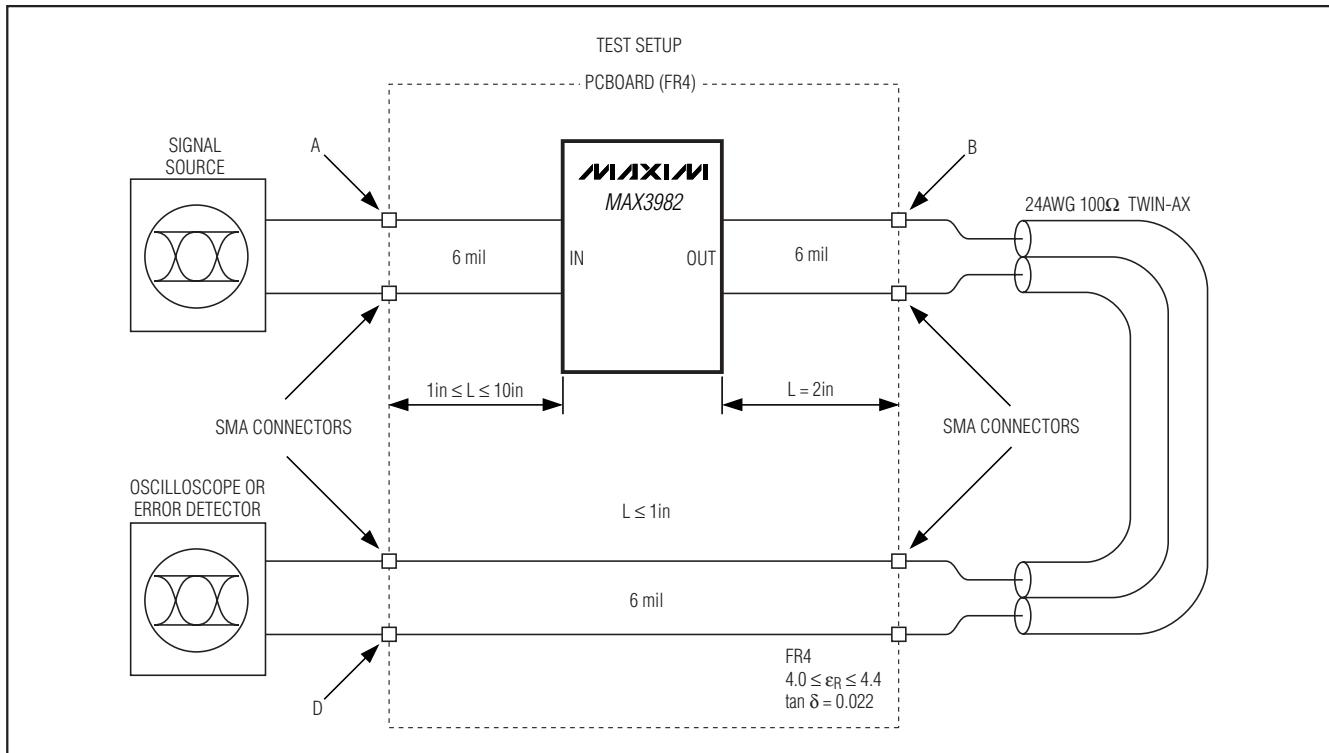

图 2. 测试设置。标注为 A, B, D 的点为 AC 参数测试条件的参考点。在 D 点进行确定性抖动和眼图测量。
**Note 1:** Guaranteed by design and characterization.**Note 2:** PE1 = PE0 = 1 for maximum preemphasis, load is 50Ω ±1% at each side, and the pattern is 0000011111 at 1Gbps.**Note 3:** Measured at point B in Figure 2 using 0000011111 at 1Gbps. PE1 = PE0 = 0 for minimum preemphasis. For transition time, the 0% reference level is the steady-state level after four zeros, just before the transition. The 100% reference level is the maximum voltage of the transition.**Note 4:** Tested with CJTPAT, as well as this pattern: 19 zeros, 1, 10 zeros, 1010101010 (D21.5 character), 1100000101 (K28.5+ character), 19 ones, 0, 10 ones, 0101010101 (D10.2 character), 0011111010 (K28.5 character).**Note 5:** Cables are unequalized, Amphenol Spectra-Strip 24AWG. Residual deterministic jitter is the difference between the source jitter at point A, and load jitter at point D in Figure 2. The deterministic jitter at the output of the transmission line must be from media-induced loss and not from clock-source modulation.